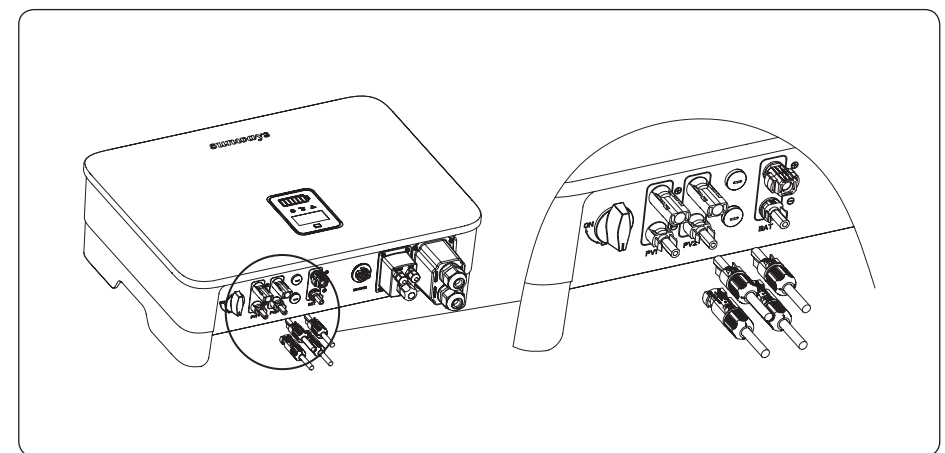

Figure 4-16
7) Insert the positive and negative connectors into the inverter DC input terminals respectively, and a "click" sound represents the assembly in place, as shown in Figure 4-16: